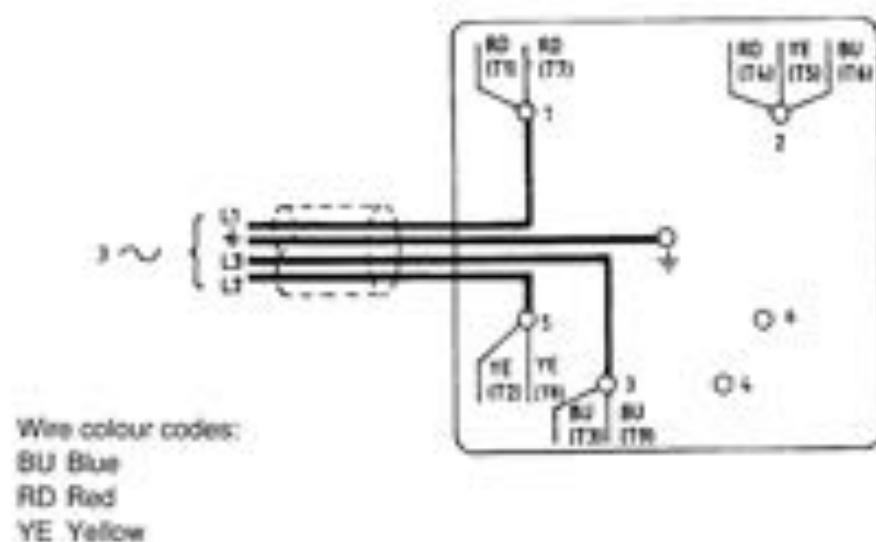

Figure 12 - Electrical supply connection, three-phase motors (low voltage)
3. Refer to the electrical supply connection diagram for your pump, (Figures 12, 13, 14, 15, 16 or 17). Make sure that the metal links are connected as shown; if they are not, move the links to the position shown.
4. Pass the electrical supply cable through the cable-gland and connect to the appropriate terminals, as shown in Figures 12, 13, 14, 15, 16 or 17.
- Remove the terminal-box cover and swap wires L1 and L3: see Figures 12, 13, 14, 15, 16 or 17, as appropriate.